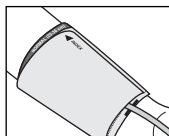

Fig. 7
5. On the fixed cuff the sign «INDEX» should point to the area «NORMAL» (fig 7). It means that the cuff is chosen correctly and fits the size of your upper arm. If the sign points to the area marked «» or to the left, the cuff is too small and the readings will be higher. If the sign points to the area marked «» or to the right, the cuff is too large and the readings will be lower.